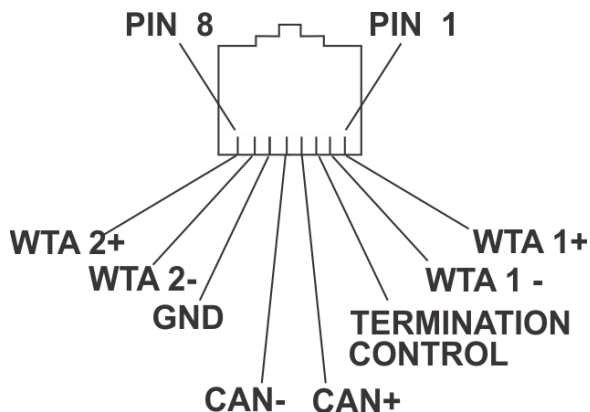
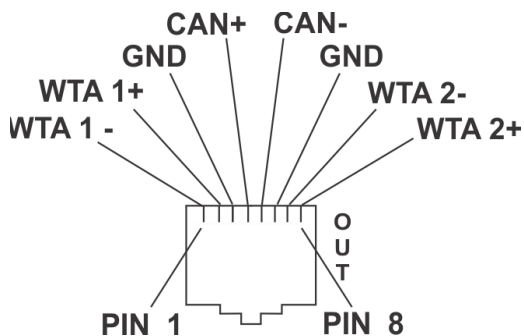

FIGURE 27. Base Station Link IN RJ-45 Jack Pinout
FIGURE 28. Base Station Link OUT RJ-45 Jack Pinout
This pair of RJ-45 jacks allow the passage of WTA, WTA termination control voltage, and CAN bus data between multiple base stations. Up to eight (8) base stations may be connected with the base station link. If just using WTA between bases, up to 16 base stations can be connected together. The pinout of the IN jack and OUT jack may be seen in Figure 27 and Figure 28